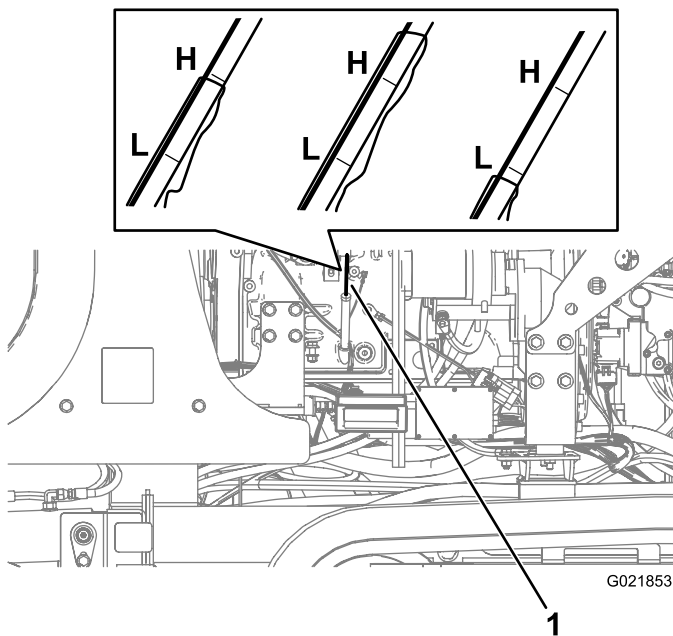

Figure 122
3. Remove the dipstick (Figure 122), and wipe it clean.